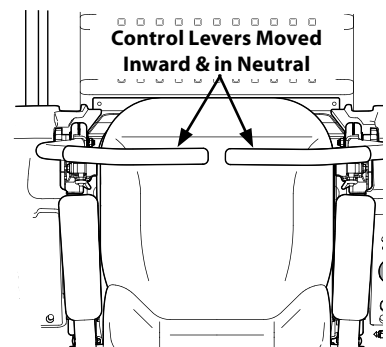

Figure 3-1
2. Move the RH and LH drive control levers inward in the neutral position. Refer to Figure 3-1.